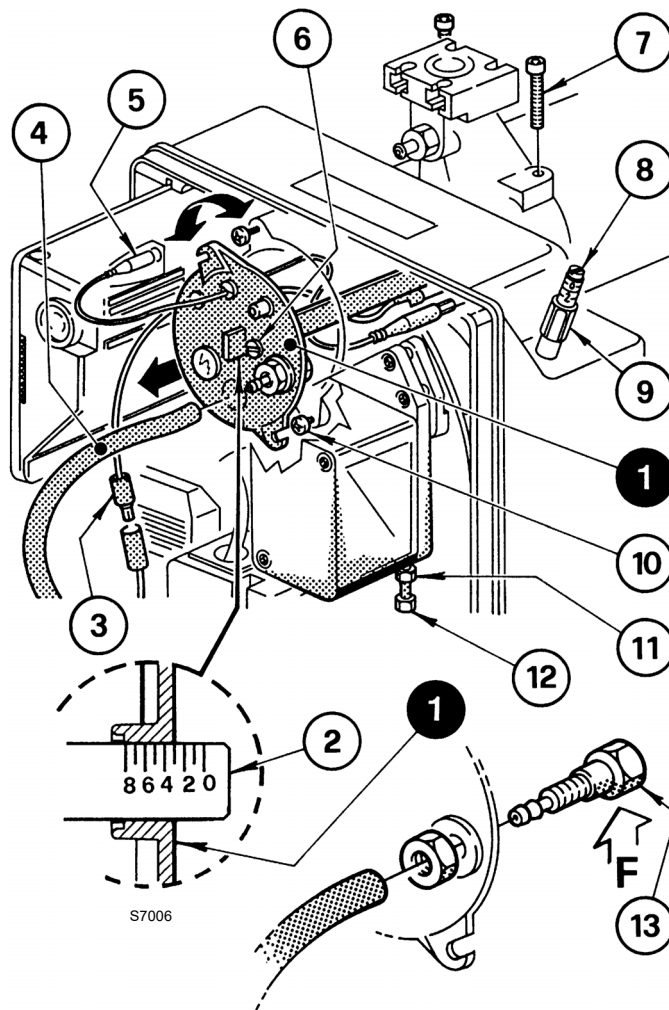

Fig. 12
This is carried out by turning the adjustment screw 6)(Fig. 12) clockwise or anti-clockwise until the notch on the regulating rod 2) lines up with the outside surface of the head assembly 1).
In Fig. 12 the head regulating rod is set to notch 3.
- ▶ disconnect the connections 3) and 5)(Fig. 12);
- ▶ remove the tube 4) and loosen the screws 10)(Fig. 12);
- ▶ unscrew and remove the screws 7), remove the head holder assembly 1)(Fig. 12) slight rotation to the right.
Take care not to change the setting position on the elbow-bracket 2)(Fig. 12) when dismantling.
Reverse the procedure above to put back the head assembly 1)(Fig. 12) as it was before.
Tighten the screws 7)(Fig. 12), without fully locking them. Lock them with a tightening torque of 3 - 4 Nm.
If the pressure test point 13)(Fig. 12) should become slack accidentally, we recommend fixing it correctly ensuring that the hole (F) in the head assembly 1)(Fig. 12) is facing downwards.